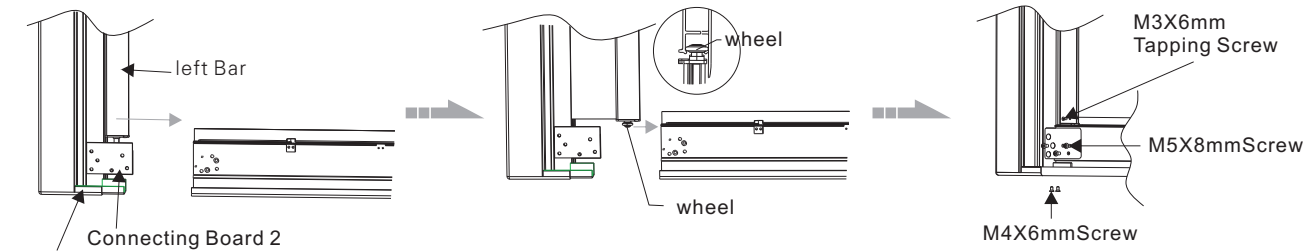

figure 2
2.Pull up the left bar to a suitable distance, and then attach the wheel into the groove of concave frame bar. Insert the connecting board 1 and the connecting board 2 into Concave Frame Bar(please operate together in two sides). Finally, fasten the corresponding screws: figure 2